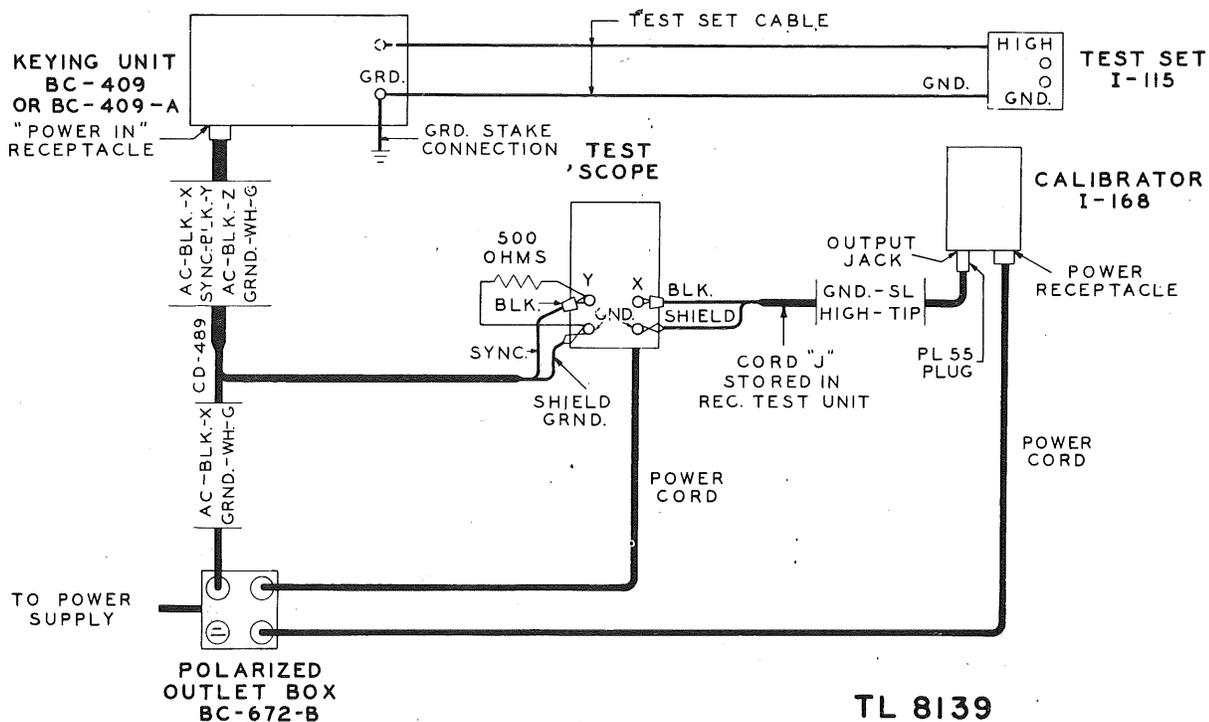

Figure 67. Test connections for synchronous-frequency test.
d. Test connections for checking the synchronous frequency of the keyer by use of Calibrator I-168 are shown in figure 67. Test Set I-115 need not be connected for this particular test.